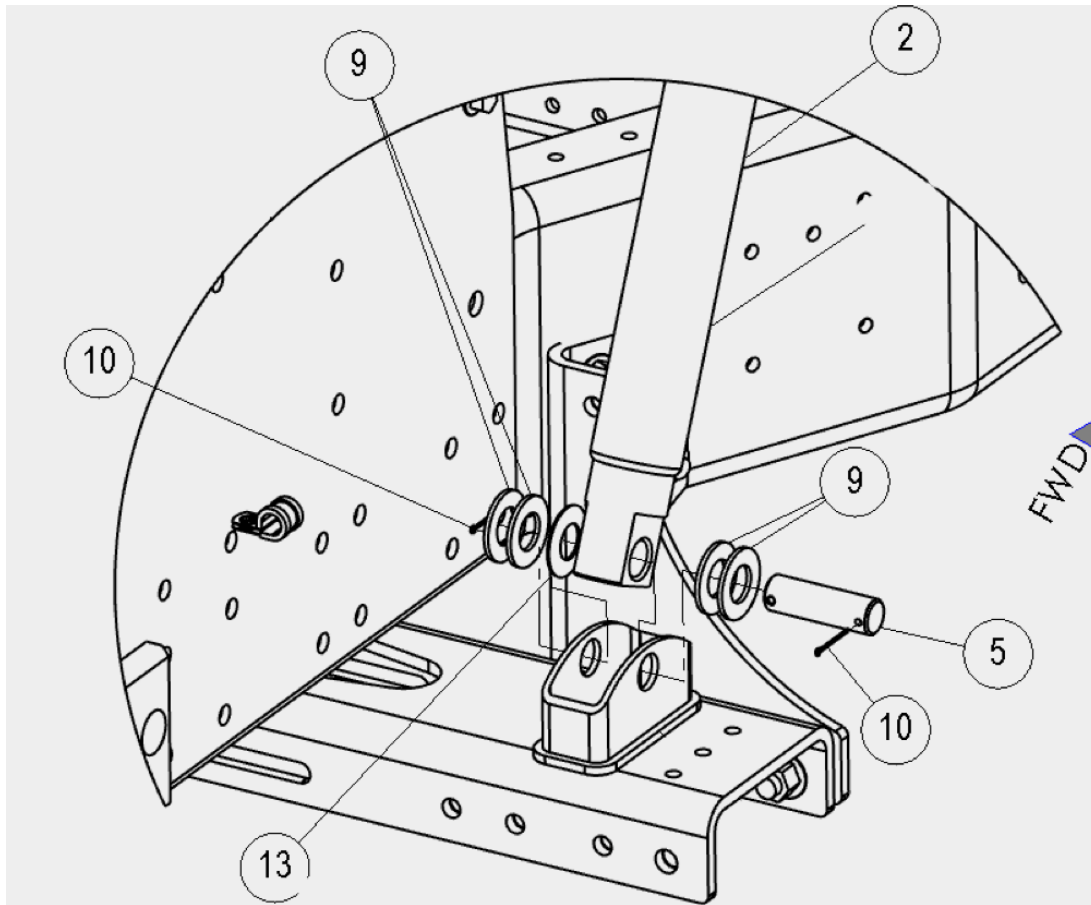

Figure 8.1
- b. Install lower and upper cab tilt cylinder pins, washers, and cotter pins and split cotter pin ends to ensure retainment. The lower cylinder mount requires one Belleville washer and then regular washers as necessary to shim the gap and prevent cylinder clunking. See Figure 8.1